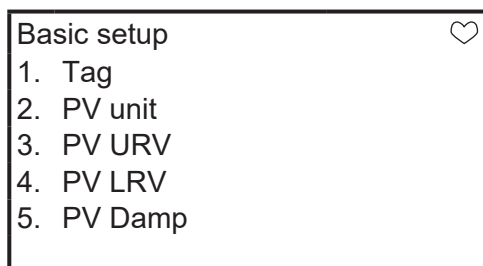

Figure 11 Transmitting the setting
5. After pressing F4 (ENTER) and returning to the basic menu, press F2 (SEND). The HART mark will appear in the upper right hand corner while HART is communicating with the device. (Figure 11)
4. After returning to the basic setup menu, press F2 (SEND). The HART Communicator mark will appear on the upper right hand corner while HART is communicating with the device. (Figure 11) The mark will disappear once communication has properly completed.
4. After returning to the basic setup menu, press F2 (SEND). The HART Communicator mark will appear in the upper right hand corner while HART is communicating with the device. (Figure 11) The mark will disappear once communication is properly completed.